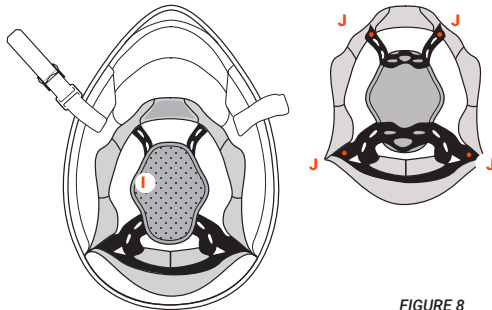

FIGURE 8
**Inner central padding: INNER SHELL – I – Figure 8**